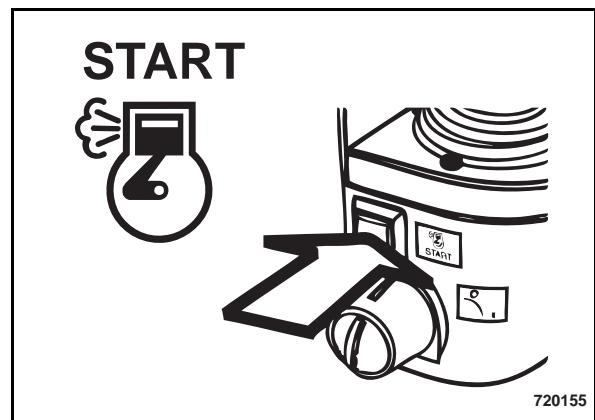

Fig. 34
- Press the start button to start the engine (Fig. 34).